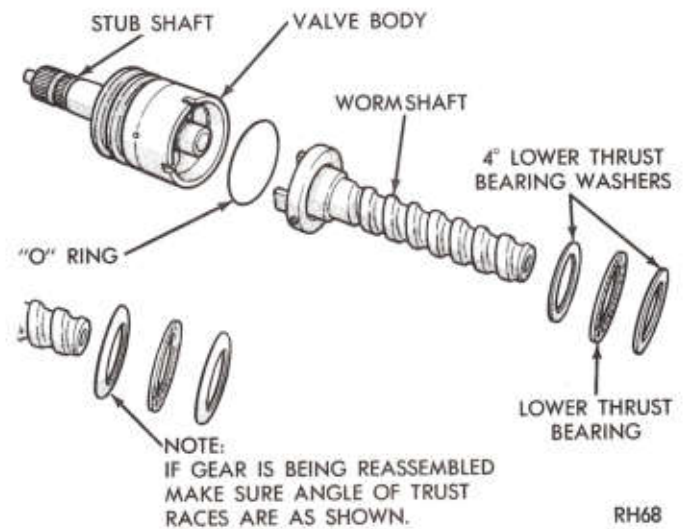

Fig. 23—Wormshaft and Valve Body
(1) Install one thrust washer, thrust bearing and finally the other thrust washer over the end of the wormshaft (Fig. 23). Position wormshaft into valve body. If thrust bearing races are tapered, install tapered surfaces parallel to each other (cupped side toward stub shaft).
(2) Install the lower cap O-ring in the valve body until it is seated against the lower shaft cap. Align the notch in the valve body with the pin in the worm;